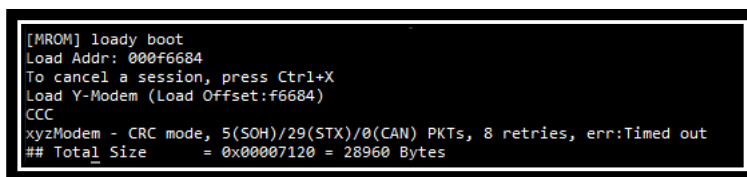

Figure 11: Bootloader Prompt on Command Window
3. At the [MROM] prompt, type `loady boot`. See Figure 11.